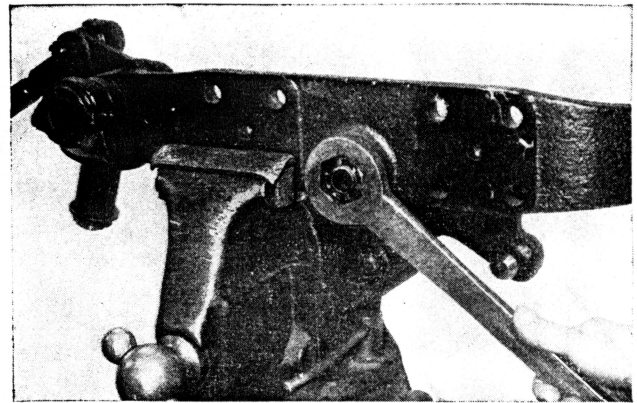
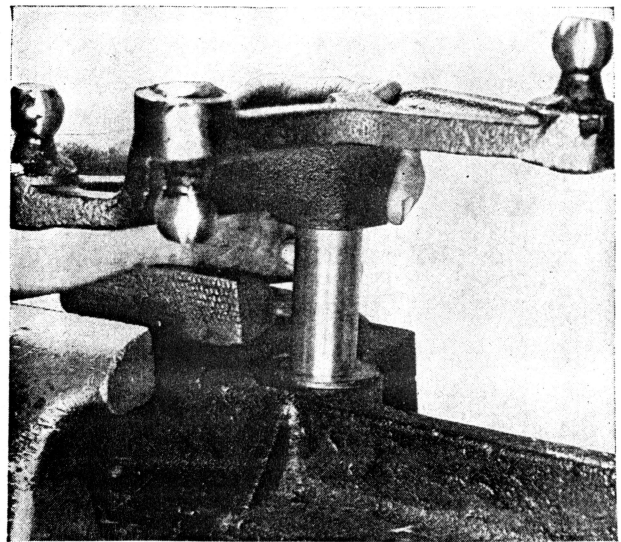

Fig. 32
Fig. 33
F. Remove cotter from steering arm pin and with proper wrench remove steering arm pin nut. (Refer to Fig. 32.) Steering arm and pin assembly may now be removed from axle center. (Refer to Fig. 33.) Caution should be exercised so that thrust washers are not lost during this operation.
H. Install nut on steering arm pin and with proper wrench tighten solidly. (Refer to Fig. 32.)